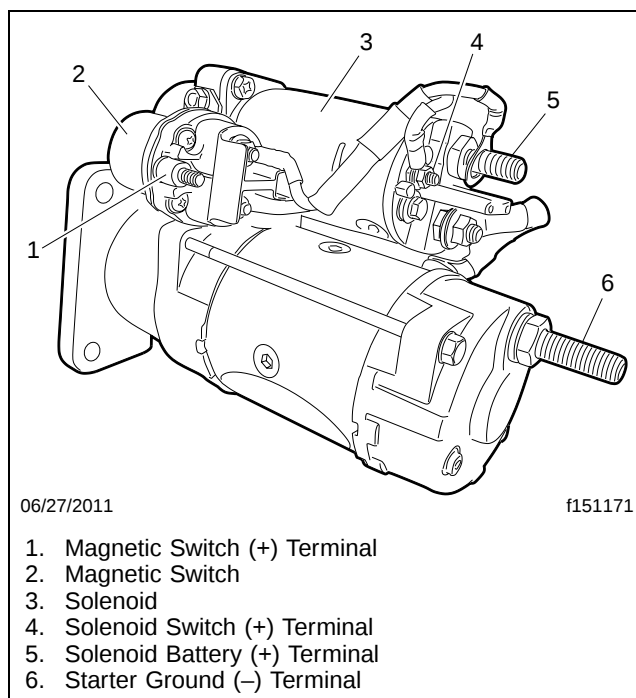

Fig. 2, Delco Remy 29MT Starter Terminals
- 6.2 Disconnect and label the wiring that connects to the starter. See **Fig. 2**.